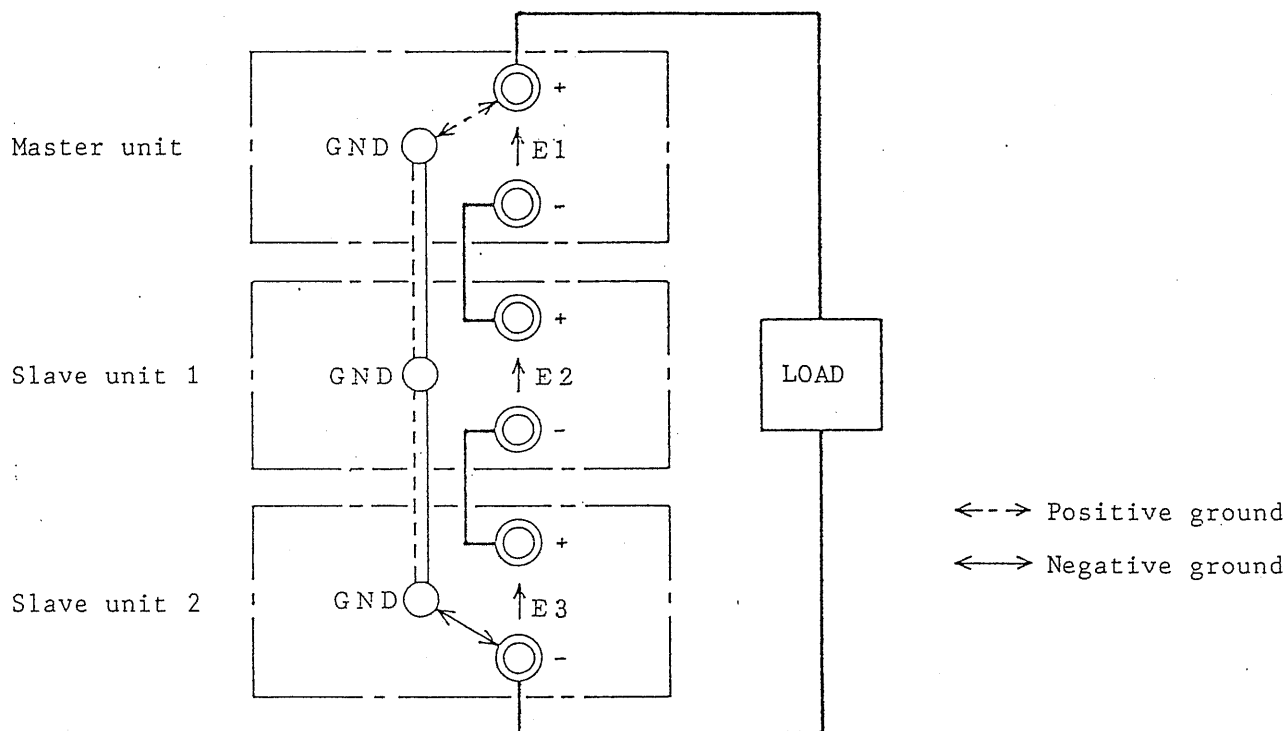

Figure 4-13 Output terminal connections
5. Connect the GND terminals of all units as shown in Figure 4-13.